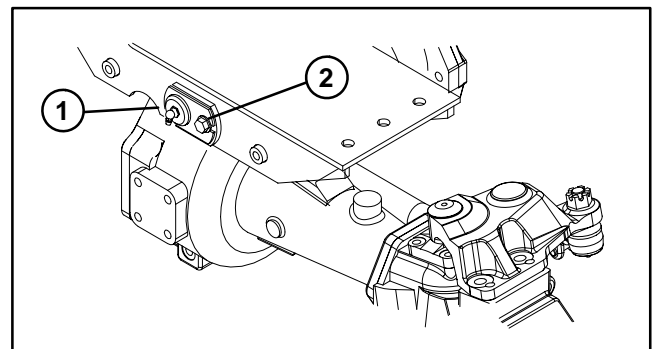

Figure 11
11. Remove lock nut and washer from pivot pin that attaches rear axle to rear frame mount. Remove washer head screw that secures flange of pivot pin to frame mount (Fig. 11).
2. Install axle pivot pin to secure axle to rear frame mount. Install washer and lock nut onto pivot pin. Lock nut should be tightened enough to allow pivot pin to rotate (maximum 70 ft–lb (94 N–m)). Secure pivot pin with washer head screw (Fig. 11).